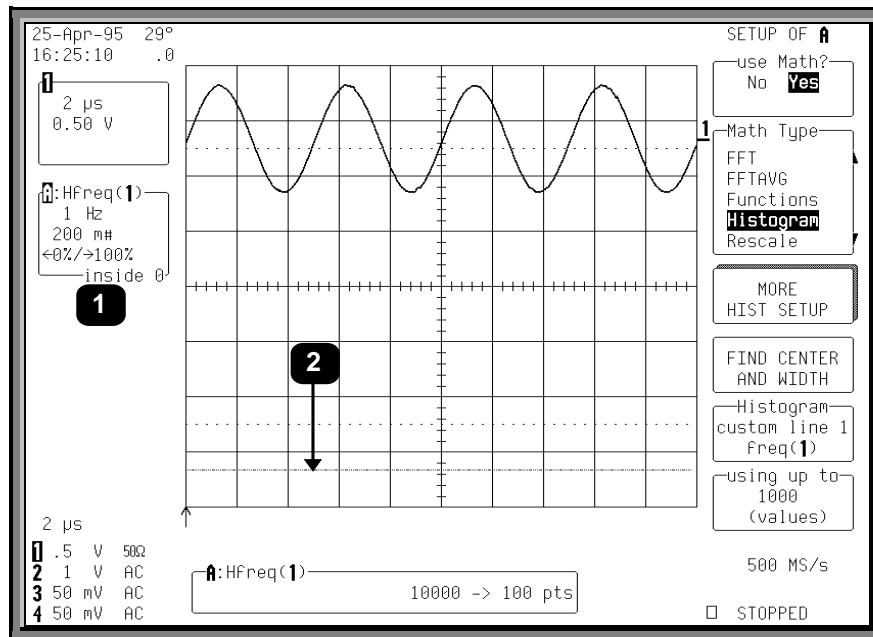

Figure 2.2
5. Now, press  to display the histogram, for a display similar to that shown in Figure 2.2.